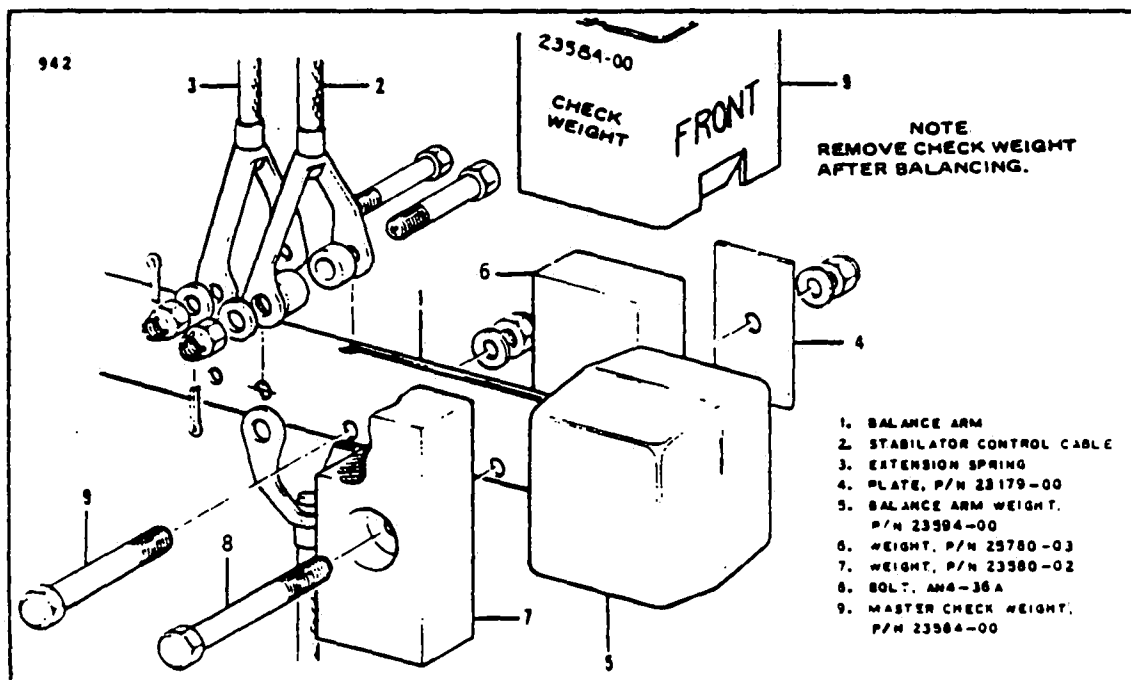

Figure 4-12. Balancing Stabilator
4-50. CHECKING AND BALANCING STABILATOR. (Serial Nos. 30-853, 30-902 to 30-1716 inclusive and 30-1718 to 30-1744 inclusive.) (Refer to Figure 4-12.)
e. After balancing is accomplished, the check weight should be removed and the front attachment bolt connecting the stabilator balance weight to the stabilator balance arm should be removed and weights (P/N 25780-02 and 25780-03) and bolt (AN4-36A) and stabilator balance weight plates (P/N 23179-00) should be installed at this attachment point. Stabilator balance weight (P/N 25780-02) should be installed on the right side of the stabilator balance arm and stabilator balance weight (P/N 25780-03) and stabilator balance weight plates (P/N 23179-00) shall be installed on the left side of the stabilator balance arm. (Refer to Figure 4-12.)